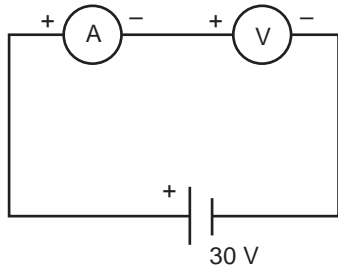

Figure 1
A student has two working digital multimeters (DMMs) that are directly connected to a 30 V power supply, as shown in Figure 1 below.
- a. Draw the three wiring connections from the power supply to the correct terminals of the two DMMs provided below to create the circuit as shown in Figure 1. 3 marks
- b. Explain in detail why these DMM readings are correct meter readings for the circuit shown in Figure 1. 3 marks